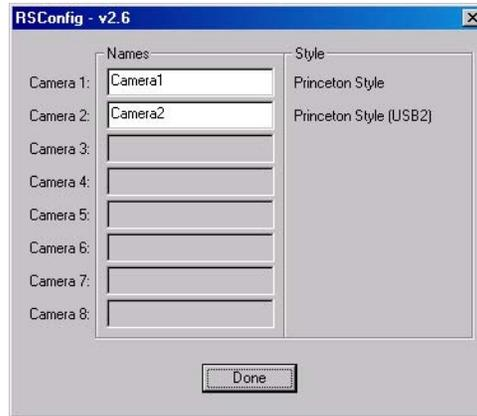

Figure 69. RSConfig dialog box: Two Camera Styles
4. When the RSConfig dialog box (Figure 69) appears, you can change the camera name to one that is more specific or you can keep the default name "Camera2". When you have finished, click on the **Done** button.